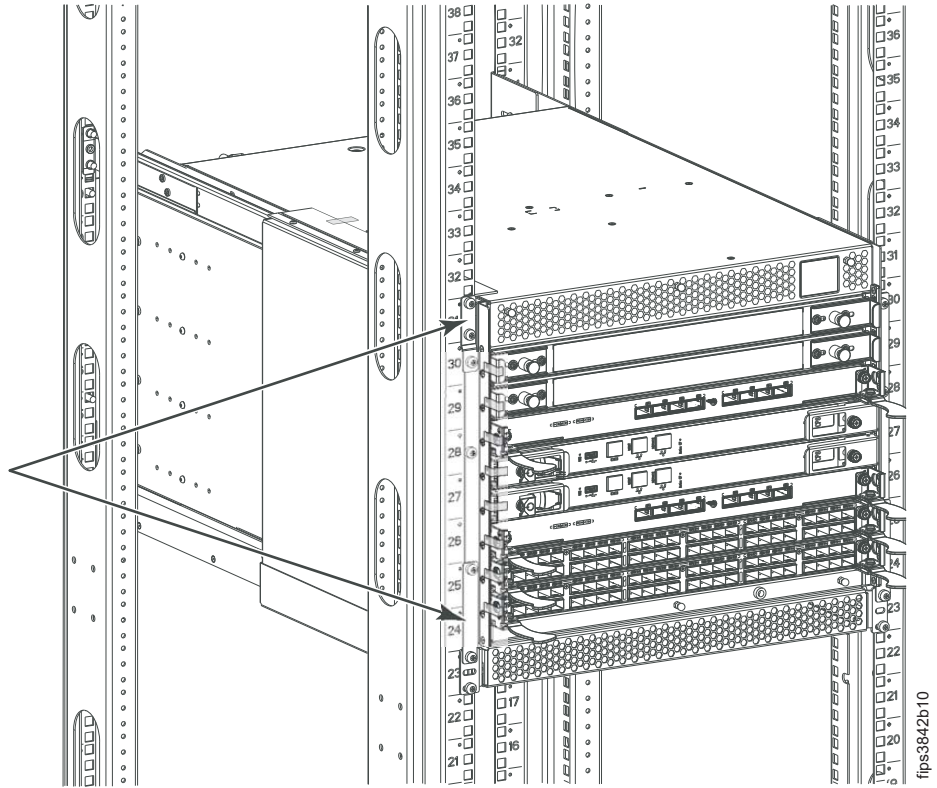
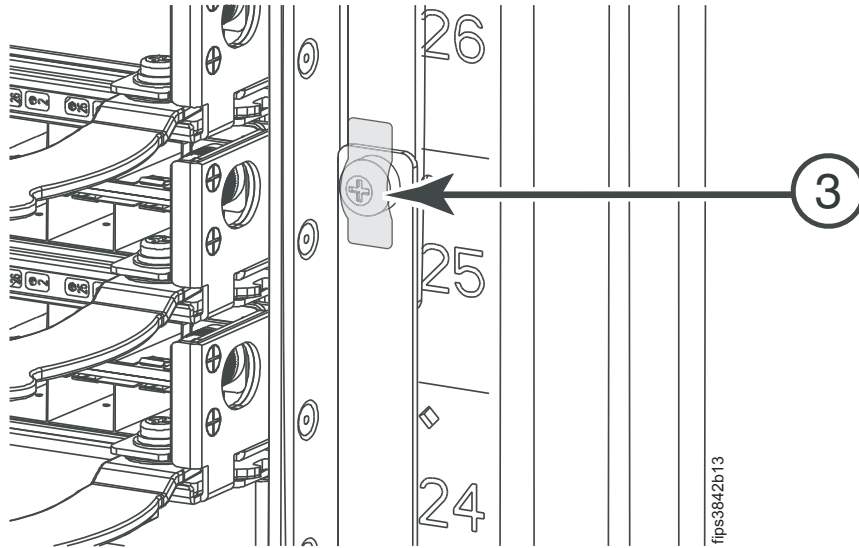

Figure 42. Upper and lower 2499-416 rackmount FIPS seals on the left rack rail (left port view)
Figure 45. Lower right 2499-416 FIPS seal application (detailed port side view)
6. Apply one seal mounted vertically to the upper left FIPS bracket, ( **1** in Figure 42 on page 43). Ensure that the seal is firmly affixed.
7. Apply one seal mounted vertically to the top screw attaching the lower left FIPS bracket, (**2** in Figure 42). Ensure that the seal is firmly affixed. (You can also refer to Figure 45 on page 45 for a more detailed mirror image of the similar lower right FIPS seal.)
10. Apply one seal mounted vertically to the lower right FIPS bracket, as shown in Figure 45 on page 45. Ensure that the seal is firmly affixed.